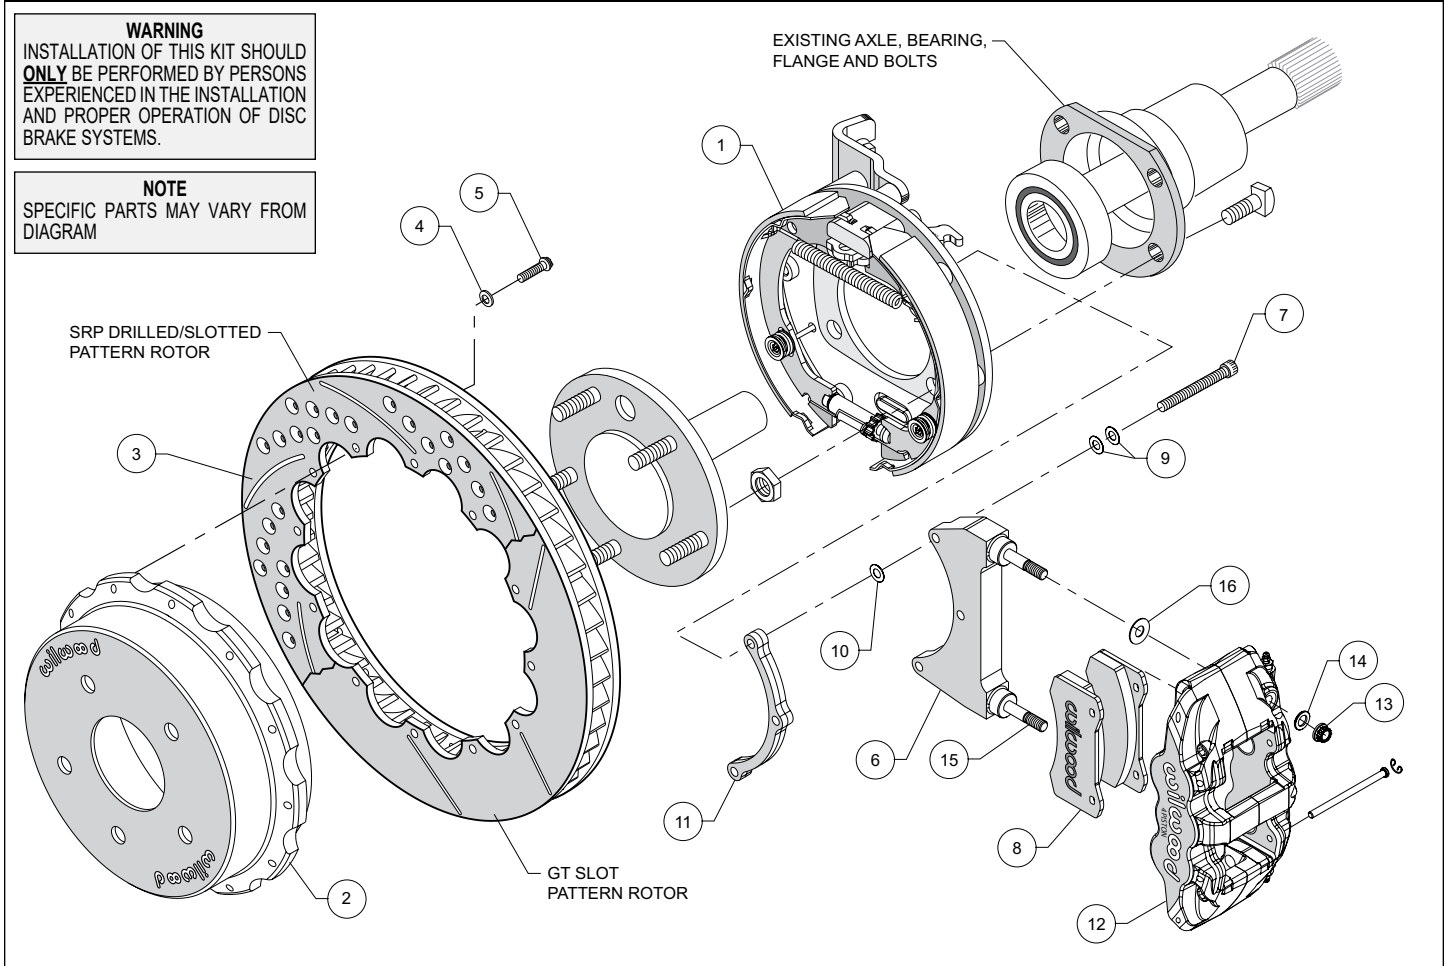
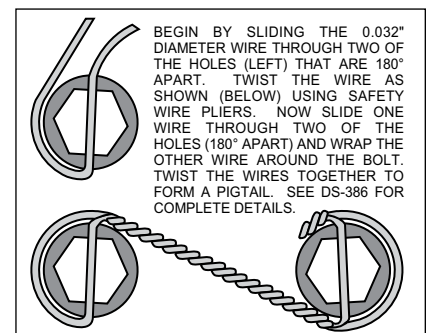

Figure 1. Typical Installation Configuration
Figure 4. Safety Wire Diagram
NOTE: Numbers in parenthesis refer to the parts list and Figure 1 on the preceding pages.
- Slide the bracket kit assembly (1) onto the housing flange and then insert the axle assembly through the center hole of the bracket kit assembly (1). Secure using the stock Original Equipment Manufacturer (OEM) bolts and nuts. Stock OEM hex nuts that retain the bracket kit assembly (1) should be on the wheel side of the bracket. Apply red *Loctite*® 271 to the stock OEM bolt threads and torque to OEM specifications. Make sure the bracket kit assembly (1) brake pads are FACING OUTWARD TOWARDS THE WHEEL.
- With the larger I.D. side of the rotor (3) facing away from the hat (2), bolt rotor (3) to hat (2) through the backside of the rotor using washers (4) and bolts (5). Apply red *Loctite*® 271 to the bolt threads and torque to 155 **in-lb** using a criss-cross pattern. For an added measure of security, the bolts may be safety wired using standard 0.032 inch diameter stainless steel safety wire as shown in Figure 4. Please refer to Wilwood's data sheet DS-386 (available at www.wilwood.com/Pdf/DataSheets/ds386.pdf) for complete safety wire installation instructions.
- Align the correct hole pattern in the hat (2) with the stud pattern on the axle flange. **NOTE:** Some OEM and aftermarket axles come with stud sizes larger than 0.50" diameter. Verify stud size and have a qualified machine shop drill the hats to the correct size, if necessary. Slide the hat/rotor assembly (2 and 3) over the wheel studs covering the bracket kit assembly (1) and against the axle flange face. Check to be sure the hat seats squarely against the hub. Install three lug nuts (finger tighten) to keep the rotor/hat assembly in place while continuing with the installation.
- **NOTE:** Please reference the caution statement at the beginning of the assembly instructions. The caliper mounting bracket assembly (6) should be installed first with clean, dry threads on the mounting bolts (7). Install the bracket from the rear side of the bracket kit assembly (1) by sliding bolt (7) through two flat washers (9), bracket (6), shim washer (10) and finally through the spacer (11), see Figure 1.
- Lubricate caliper mounting studs and nuts with lightweight oil. Install one washer (16) over each pre-installed stud (15) on the radial mount bracket (6). Slide the caliper (12) in place over the studs and rotor, then install the washer (14) and lock nut (13) to hold the caliper in place. The caliper bleed screws should be pointing up. Snug the lock nuts (13) and check that the rotor (3) is centered in the caliper (12). Add or subtract .015" shims (10) as necessary between the caliper mounting bracket (6) and the spacer (11) to center the caliper (12).
- Remove the two pad retaining pins from the caliper (12) by carefully popping out the pin retaining clips and sliding out the pins. Insert the brake pads (8) into the caliper from the bottom, Figure 1. With the friction material facing the rotor, secure the brake pads in place with the pad retaining pins and clips. Reinstall the caliper onto the caliper mounting bracket and temporarily tighten the lock nuts. Check that the top of the brake pad is flush with the outside diameter of the rotor. If not, adjust by adding or subtracting shims (16) between the caliper and the bracket.
- Adjust the parking brake shoes outward (using a drum shoe adjustment tool available at your local auto parts store) while spinning the hat (2) until a slight drag is felt against the hat/drum. Remove the lug nuts that were holding the hat/rotor in place. Install the wheel and lug nuts. Check to see that the wheel rotates freely without interference.
- Once all clearances have been checked, remove the wheel, caliper, hat/rotor from the bracket kit assembly (1). Secure the caliper mounting bracket (6) to the bracket kit assembly (1) using red *Loctite*® 271. Torque bolts (7) to 180 **in-lb**. Reinstall the hat/rotor assembly and again use lug nuts to hold it in place. Reinstall the caliper, torque the caliper nuts (13) to 47 ft-lb.
- NOTE:** Clevis and cable kits which attach to the parking brake assembly are not included in the Wilwood parking brake kit. Wilwood offers a generic style parking brake cable kit, P/N 330-9371 for this application which can be ordered separately from your local Wilwood dealer or by calling Wilwood customer service at (805) 388-1188.